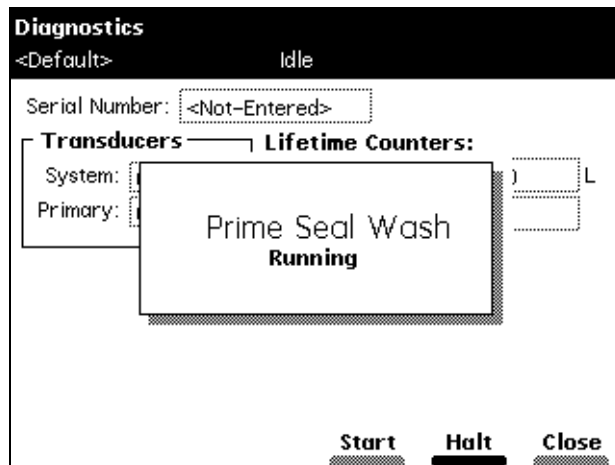

Figure 1-16 Prime Seal Wash Dialog Box
4. In the Main screen, press the **Diag** screen key, then press the **Prime SealWsh** screen key. The Prime Seal Wash dialog box appears (Figure 1-16).